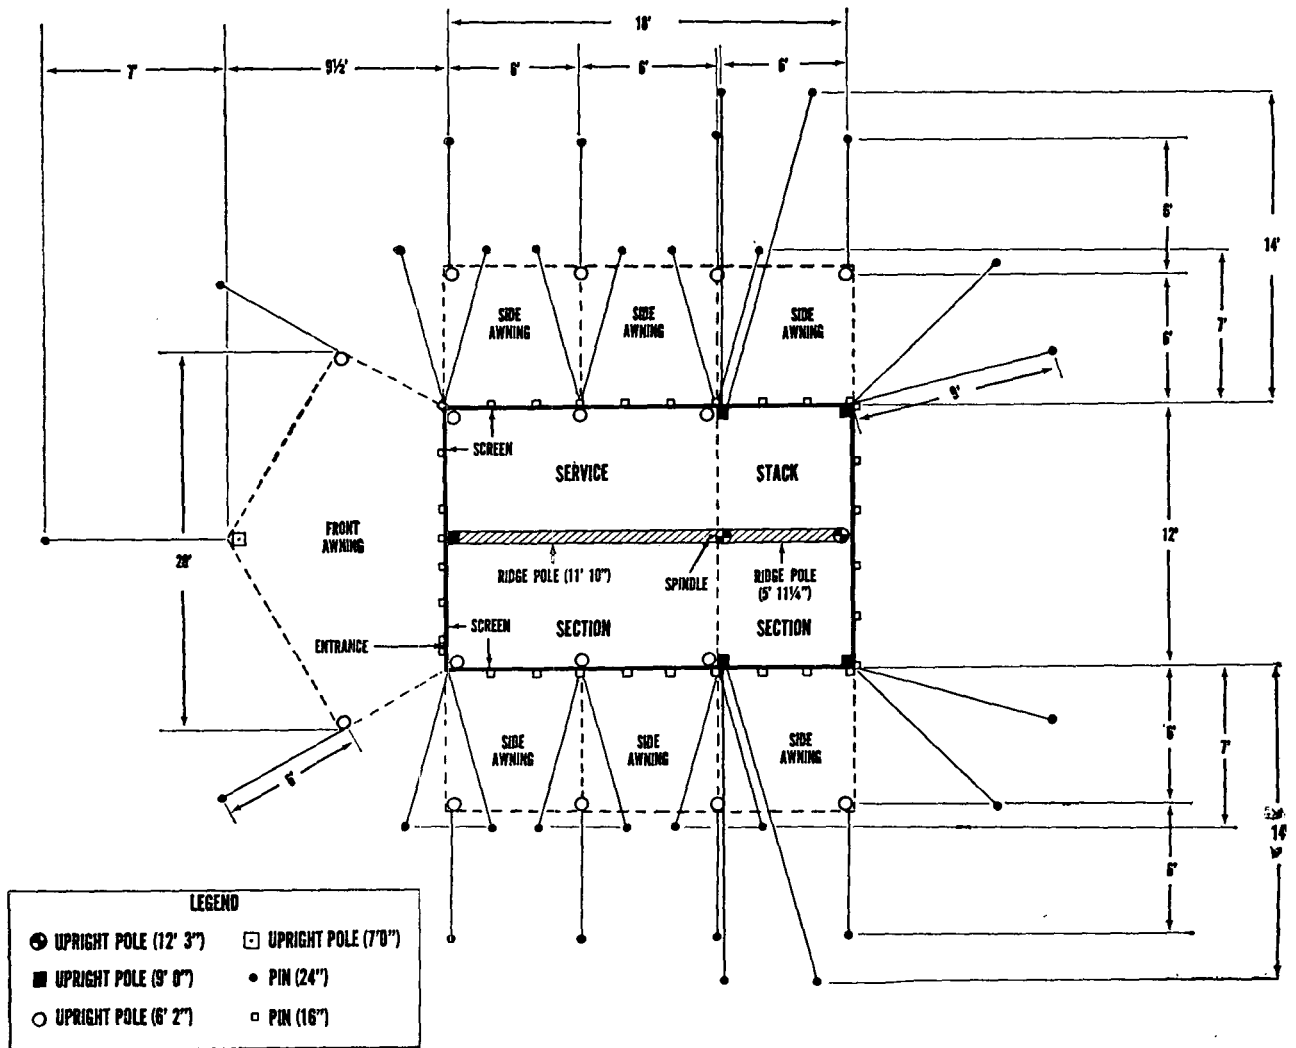

Figure 40. Ground plan of tent, kitchen, flyproof, M-1948.
c. Ground Plan. Before pitching the tent, study the ground plan carefully (fig. 40).